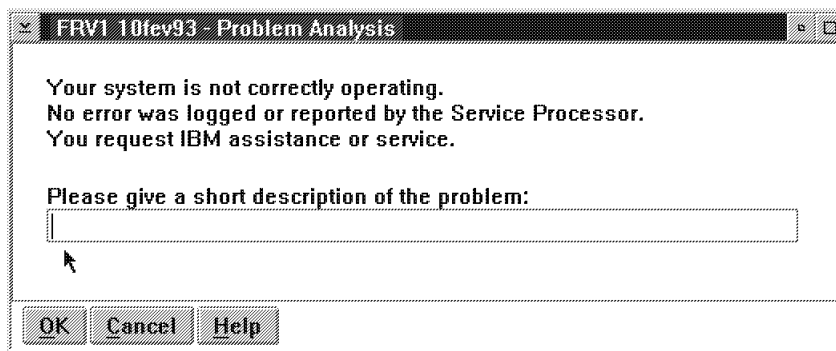

Figure 2-11. Link to RETAIN
4. \_\_\_\_ See Figure 2-11 on page 2-16, enter a **short description** of the problem then click on **OK** .